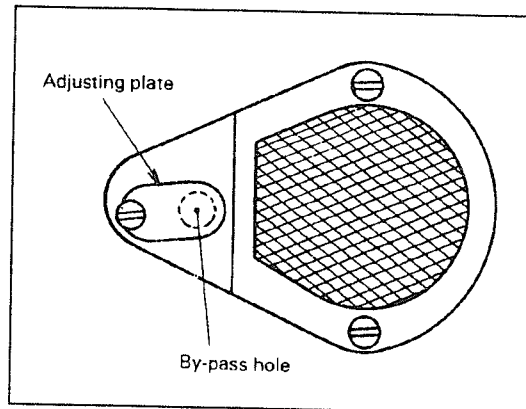

Fig.12
13、 Adjustment of oil pump (图 12):